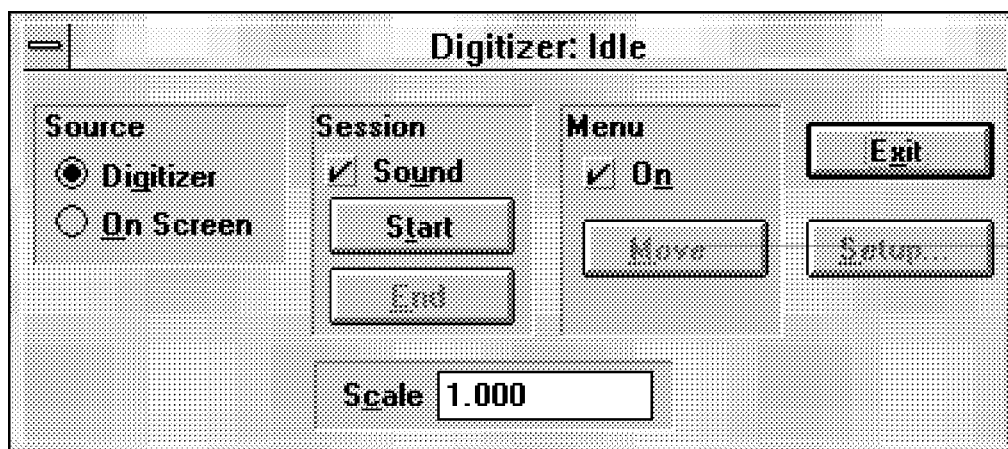

Figure 6-5
2. In the Edit drop down menu click on *Digitize*. The Digitize dialog box as shown in Figure 6-5 will appear. The Source area in the dialog box allows you to select either a hardware digitizer or on-screen digitizing.